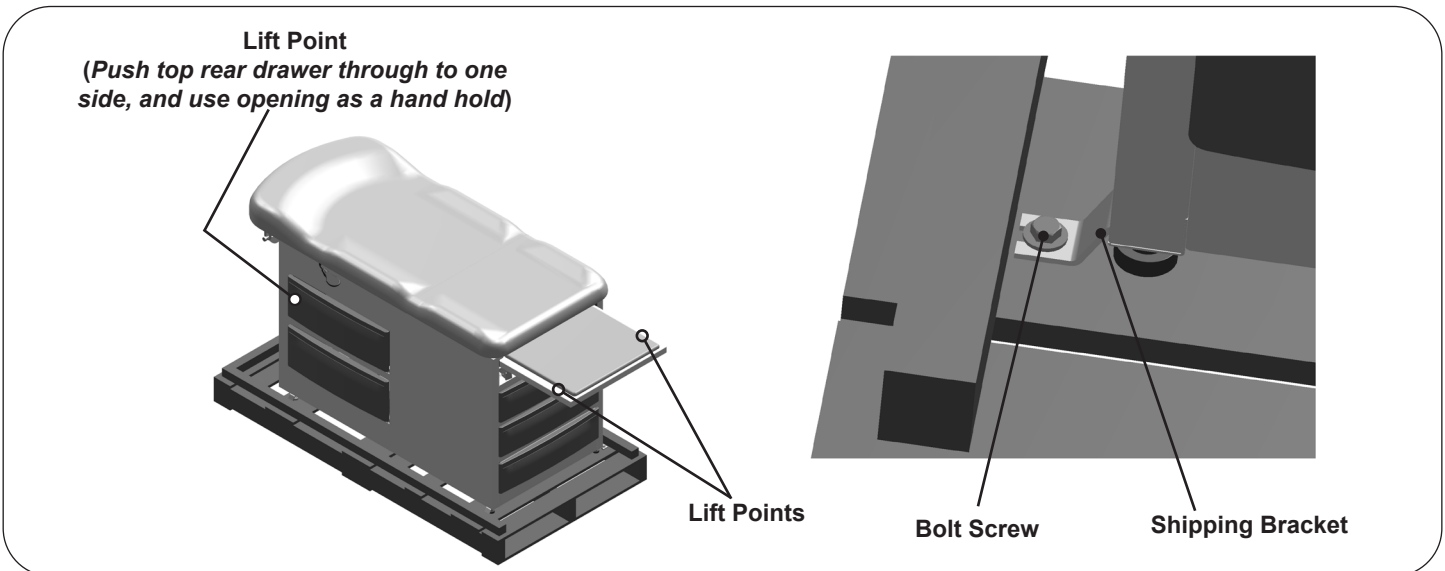

Figure 3. Table Lift Points
2. Unbolt the table from the shipping pallet by removing the 4 bolt screws from the pallet with a 1/2" socket wrench and remove the shipping bracket. See Figure 3.
- Remove the table from the shipping pallet lifting at the correct lift points indicated in Figure 3. The leg support may be used for lifting.
- To avoid damaging the table lift only at points indicated in Figure 3.